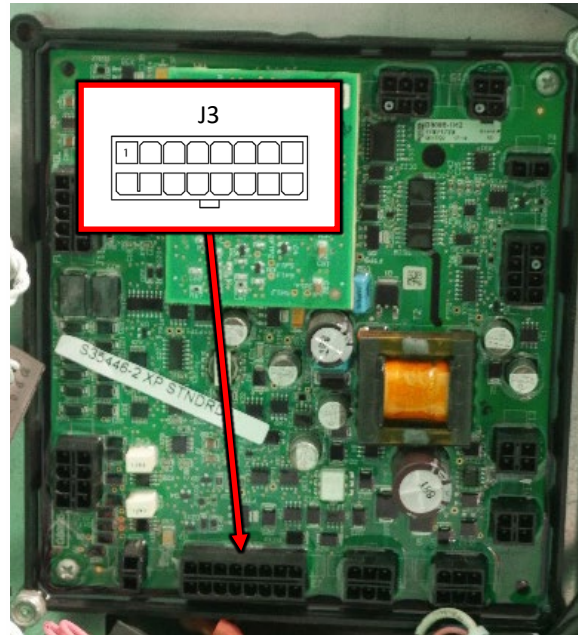

Figure F.2
A.2. Perform the static measurements in Test Table 1, refer to Figure F.2 for test point locations. NOTE: LEADS REMOVED FROM IMAGE ONLY, DO NOT DISCONNECT ANY CONNECTORS.